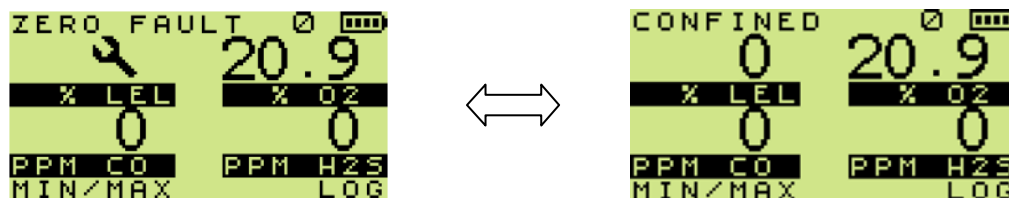

Figure 50: Zero Fault
- 'ZERO FAULT' and a spanner (wrench) symbol alternating with a zero reading, as illustrated in Figure 50: Zero Fault.